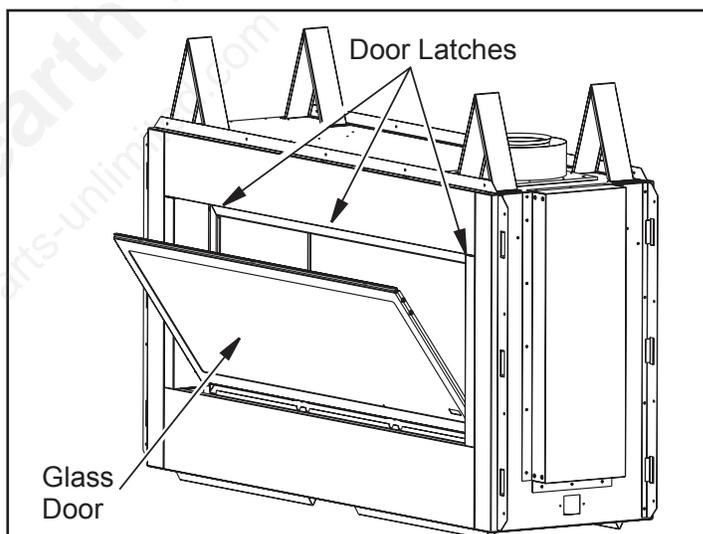

Figure 33 - Removing/Replace Glass Door
1. Position door frame in front of firebox opening tilting top of door about 45° toward you. Insert bottom flange of glass door into the retaining channel at the bottom of firebox (see Figure 33). Make sure door is center with firebox opening.
4. Tilt open glass door 45° from the top of firebox and lift up to release door from retaining channel (see Figure 33).